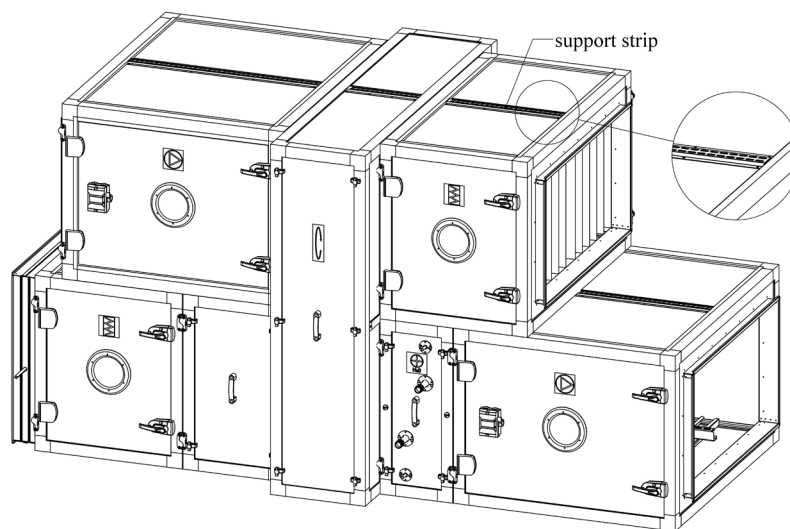

Figure 11.1
1. There are roof support strips (installed at factory) on the top of the outdoor unit, as shown in Figure 11.1.